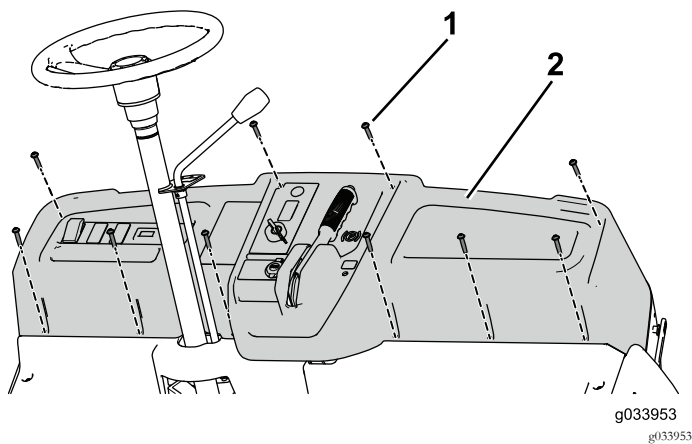

Figure 32
9. Use the 10 screws (1/4 x 1-1/4 inches) to secure the dashboard to the machine (Figure 32).